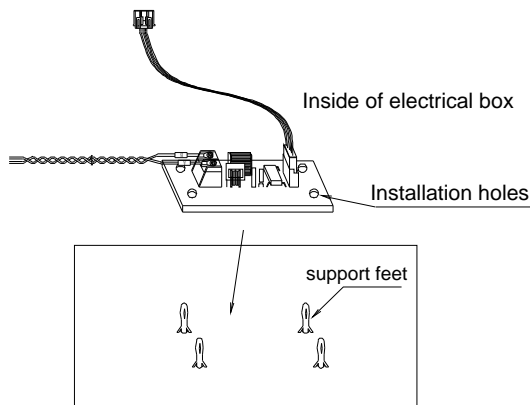

Fig. 2
- As shown in figure 2. In the electrical box there are four spare white supporting feet, arranging for 63 mm x 26 mm rectangle. Set the extended pcb up to these four white support feet.